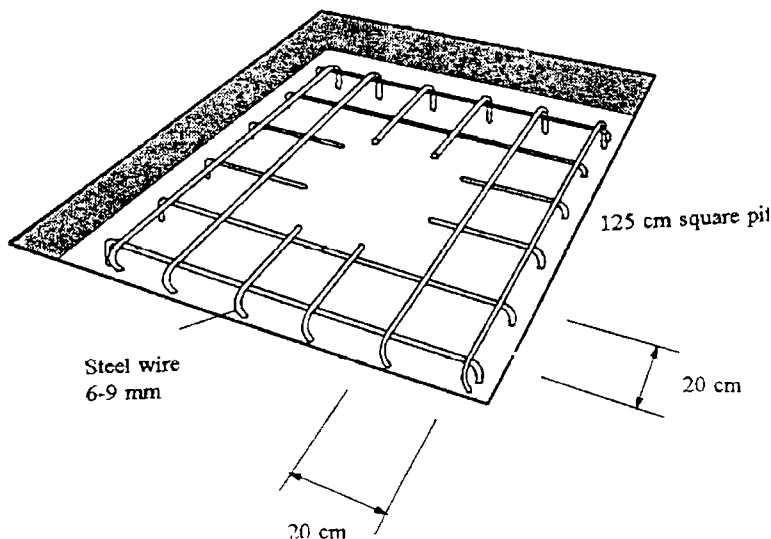

Figure 10. Place grid in pit
- Put the grid in the pit. Bend the ends of the wires, or put a small stone at each corner, so that the grid stands about 20-30 millimetres off the bottom of the pit (see Figure 10).